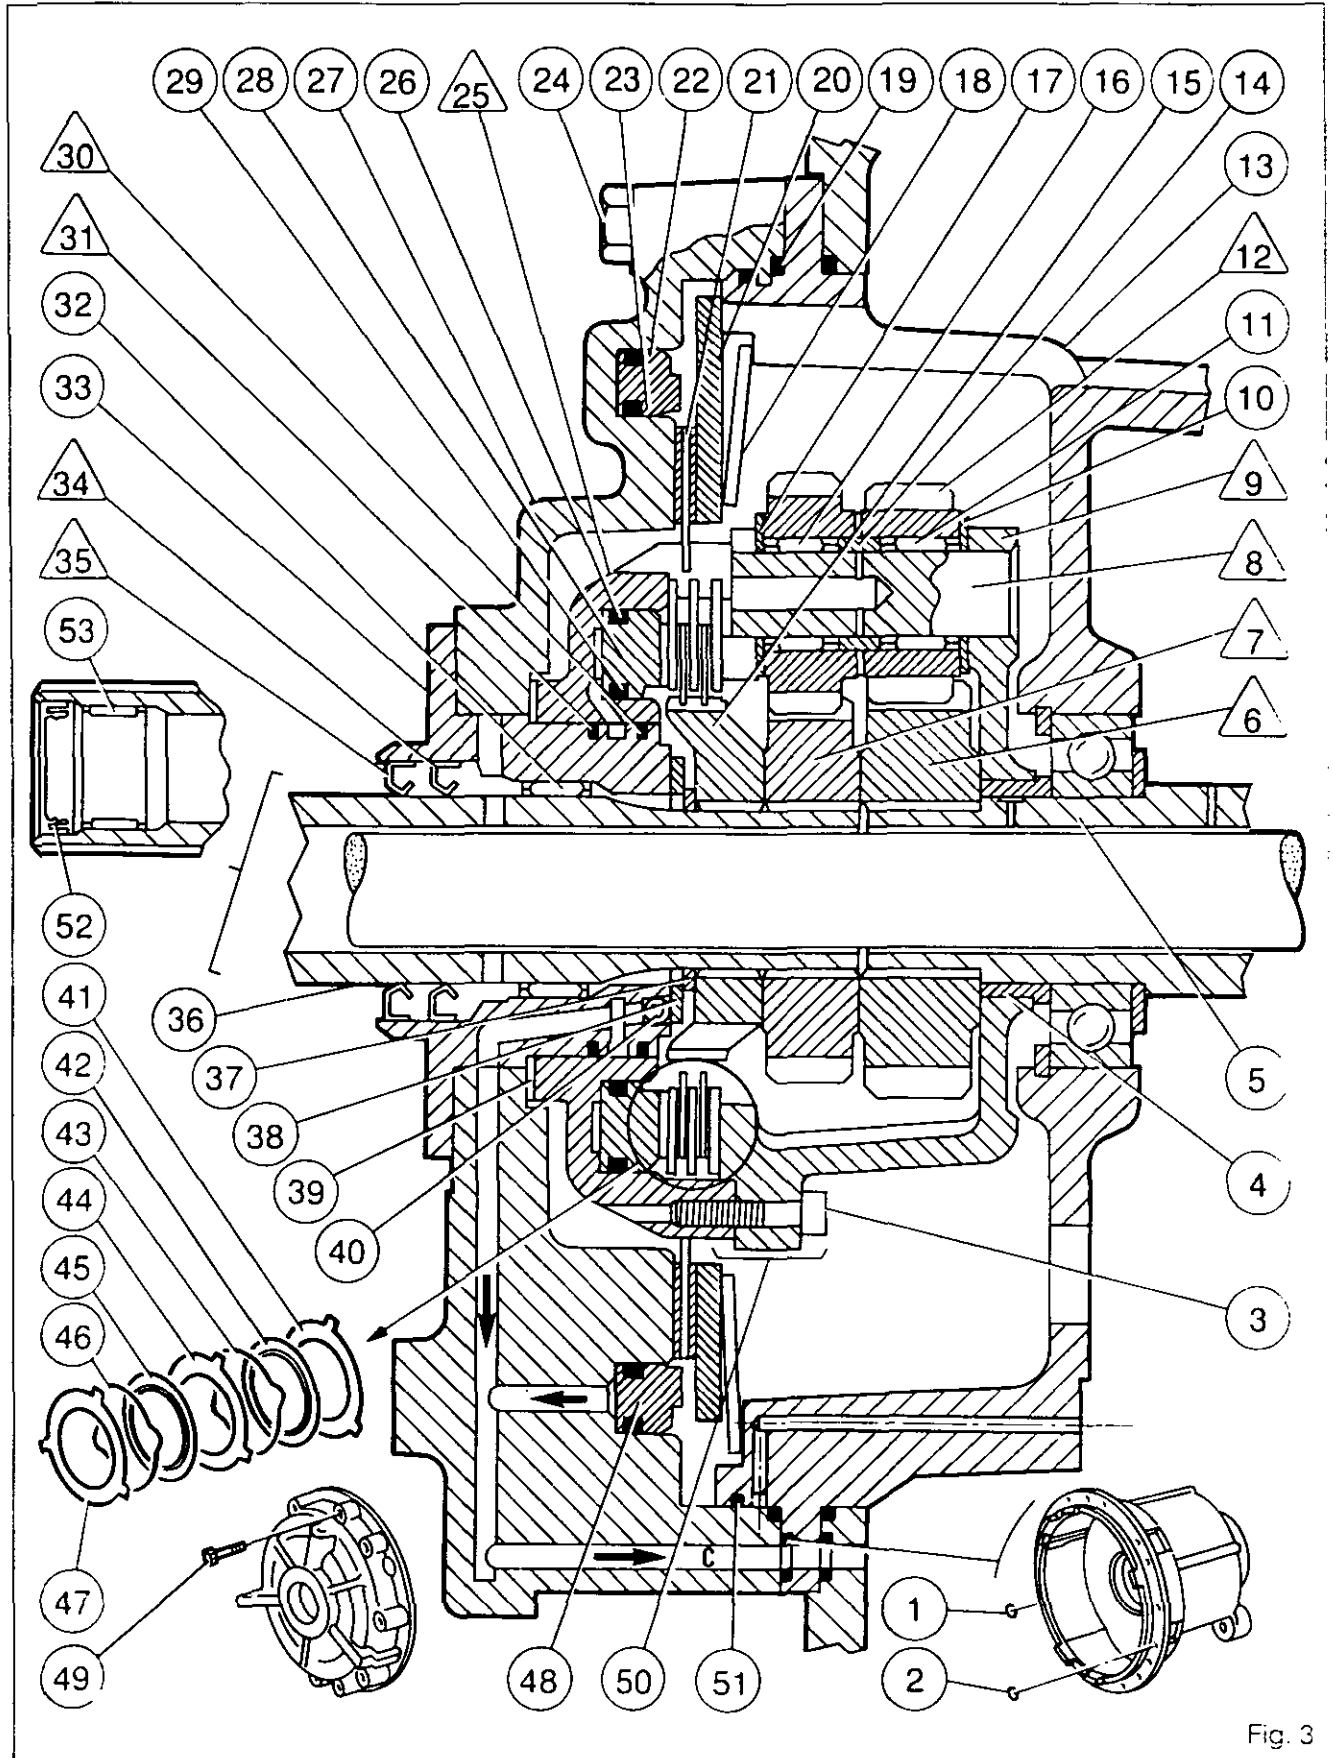

Fig. 3
40 Kph version : stepup (Fig. 3)
In this mode (Fig. 3), there is no supply to the hydraulic components and the speedshift operates as a purely mechanical transmission. Oil in chamber of pistons (28) and (48) returns to the housing via the gallery C and the solenoid. The drive from the hollow primary shaft (36) is transmitted to the input sun gear /7\ by the splines which secure the gear to the shaft. Sun gear /7\ drives the compound planetary gears /12\ which are mounted to rotate freely on spindles /8\.